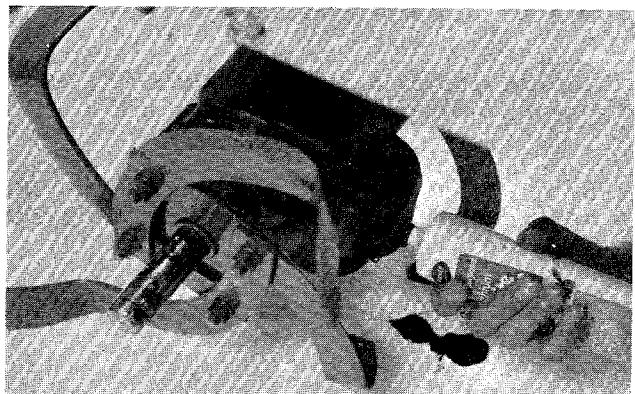

FIGURE 3.
3. If lubricant fails to flow from the outlet, lubricant should be added. USE PENNANT OIL EP #35000. This is available in 8 ounce squeeze tubes. Order part number 737-0136. See figure 3.